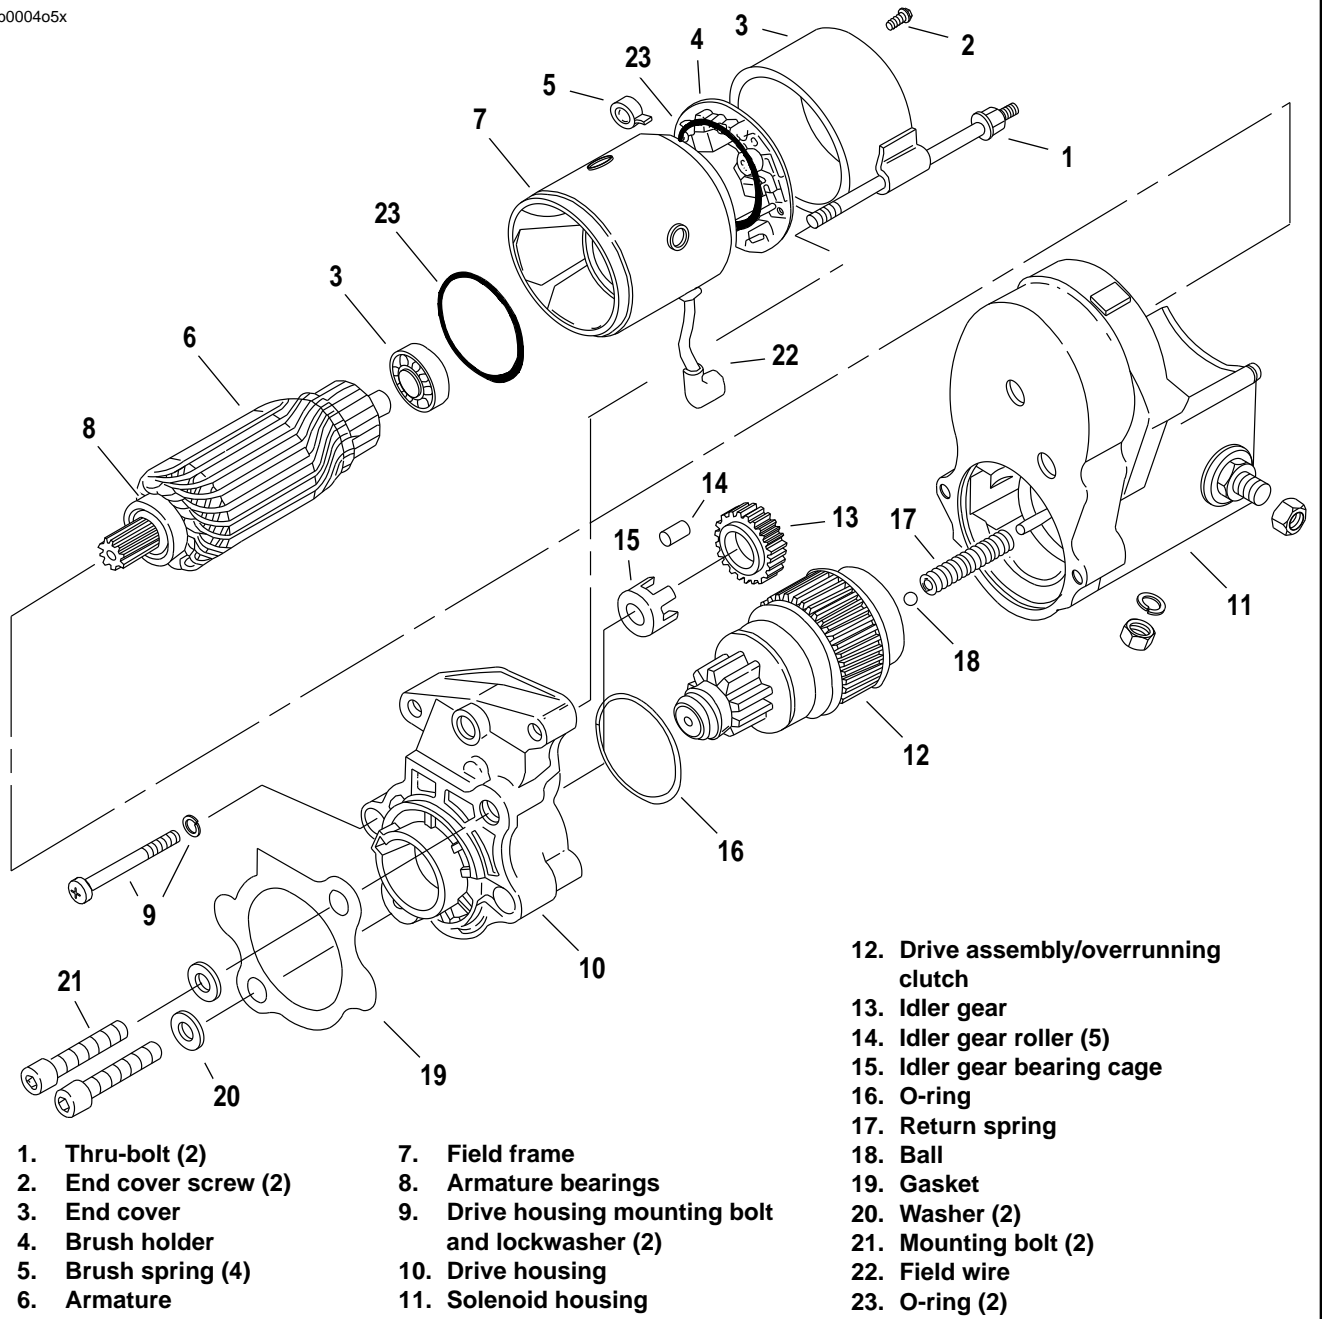

Figure 5-14. Starter Assembly
1. See Figure 5-14. Remove field wire (22).
6. See Figure 5-14. Remove armature (6) and field frame (7).
15. See Figure 5-14. Check armature bearings (8) and replace if necessary.
2. See Figure 5-14. When installing drive assembly components, open end of idler bearing cage (15) faces toward solenoid.
3. When installing drive housing (10) to solenoid housing (11), use **new** O-ring (16). Be sure to install return spring (17) and ball (18).
4. Lubricate armature bearings (8) with high temperature grease, such as LUBRIPLATE 110. Install armature (6) and field frame (7) to solenoid housing (11).
5. Install brushes and brush holder (4).
6. Install end cover (3) with end cover screws (2) and O-rings (23).
7. Install thru-bolts (1).